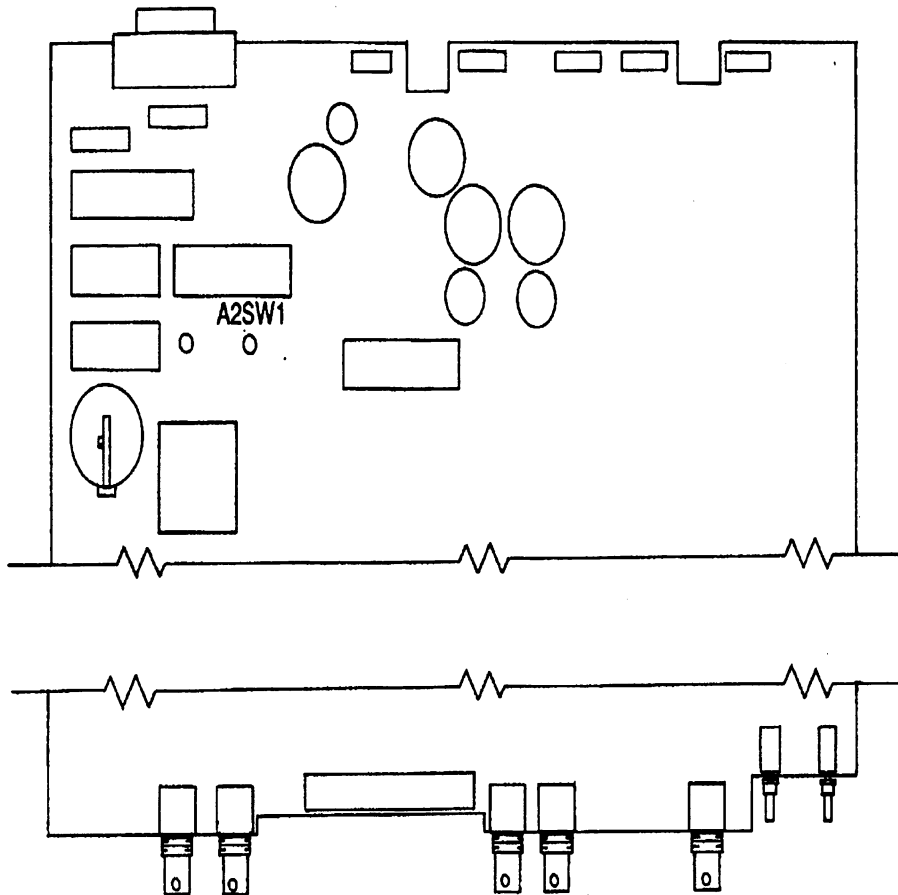
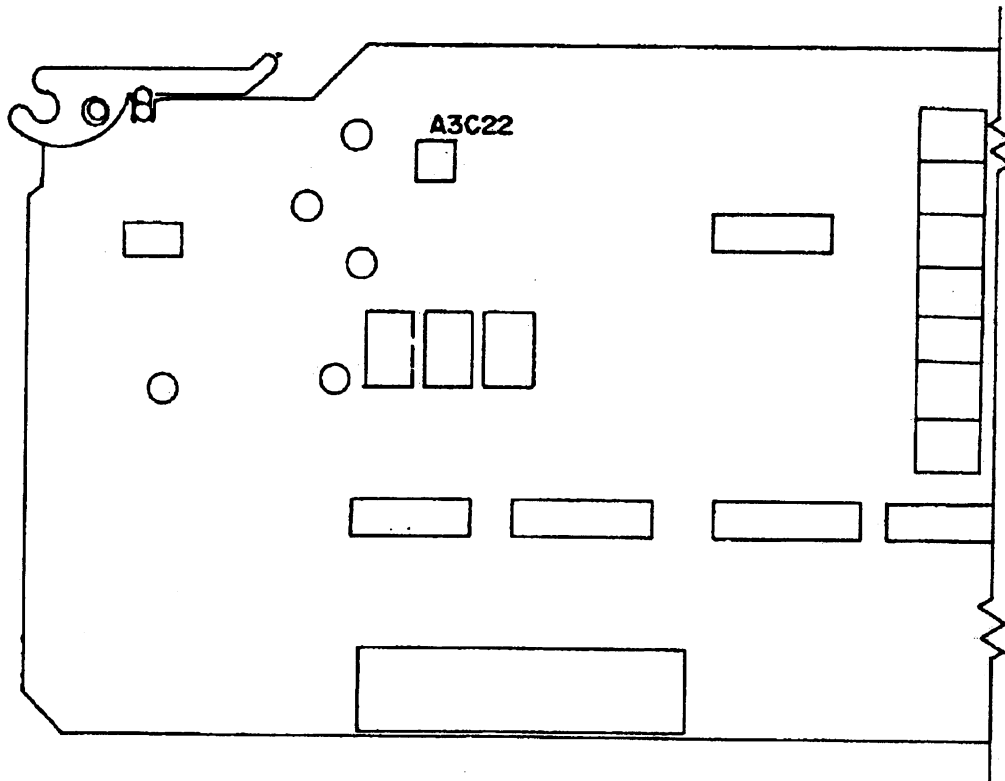

Figure 2. A2 motherboard.
Figure 3. A3 output circuit card adjustment location.
- (3) Set **POWER** switch to **ON**.
- (4) Press and hold (down) A2SW1 (fig. 2) and then press **CALIBRATE** pushbutton.
- (5) Observe display indication of **WVTK SN X, XXX, XXX** or **WVTK SN 0**.
- (6) Press **CURSOR** \updownarrow pushbutton and allow enough time for calibrating mode to complete.
- (7) Observe display indication of **ARMY SN X, XXX** or **ARMY SN 0**.
- (8) Repeat (6) above observing display indication of **PEAKING C22**.
- (9) Connect **UNBALANCED** output to oscilloscope input, using cable and a 50Ω feedthrough termination.
- (10) Adjust A3C22 (fig. 3) for a peak-to-peak aberration of less than 270 mV displayed on oscilloscope (R).
- (11) Press **CALIBRATE** pushbutton and verify display indicates **CALIBRATION OFF**.
- (12) Disconnect equipment setup and reinstall top cover.
(3) Position **POWER** switch to **ON**.
(4) Press and hold (down) A2SW1 (fig. 2) and then press **CALIBRATE** pushbutton.
(5) Press **CURSOR**  pushbutton three times and observe display indication of **R33, 97, 64, VSINE XXX**.